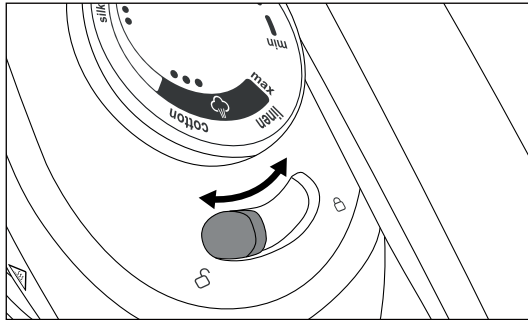

Fig. 14
- ◆ Before transporting the appliance, move the lock switch **4** on the iron in the direction of the open lock symbol  (see fig. 14). The iron is firmly locked onto the stand **6** and cannot fall down.
- ◆ Push the lock switch **4** in the direction of the open lock symbol  to release the lock (see fig. 14).